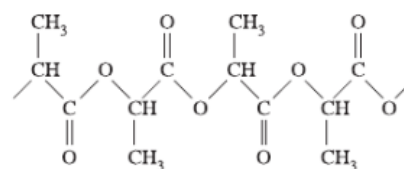

Figure 2 – a small section of a polymer chain
2. Consider the small section of a polymer shown in fig. 2.
4. Consider the small section of a polymer identical to the one shown in fig. 2 above.